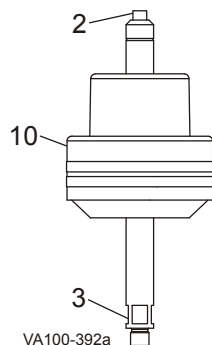
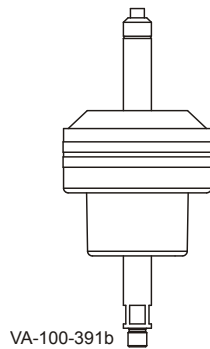

Figure 38: Air-to-Raise Configuration
Figure 39: Air-to-Lower Configuration
4. Turn the piston/spring assembly (Figure 38, item 10) over.
5. Install the actuator stem halves in the piston/spring assembly and tighten to 200 in/lbs. See Figure 38 for Air-to-Raise configuration; Figure 39 for Air-to-Lower configuration.